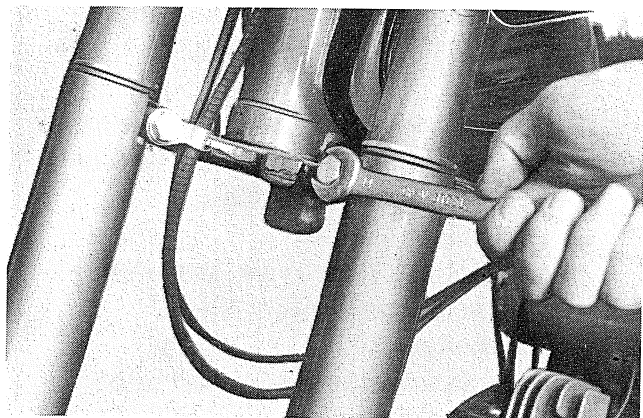

Fig. 4-3-3
- 2) Loosen the inner tube mounting bolt on the lower bracket and pull off the fork downward. (Figs. 4-3-3 and 4)